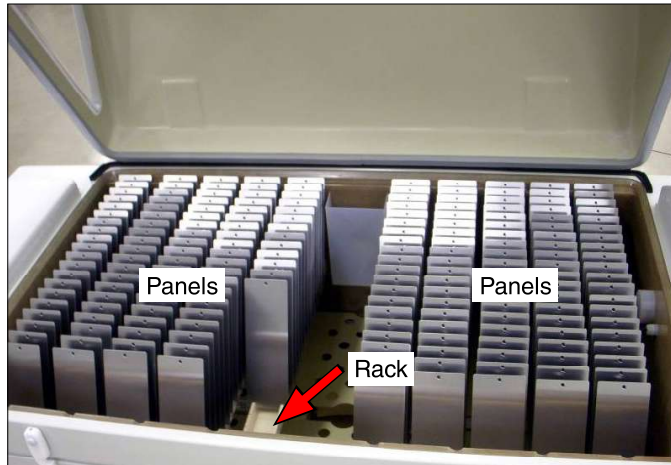

Figure 10.2a: Panels mounted on racks in chamber.
- Typically, flat standard test panels are mounted in panel racks (Figure 10.2a and Figure 10.2b).